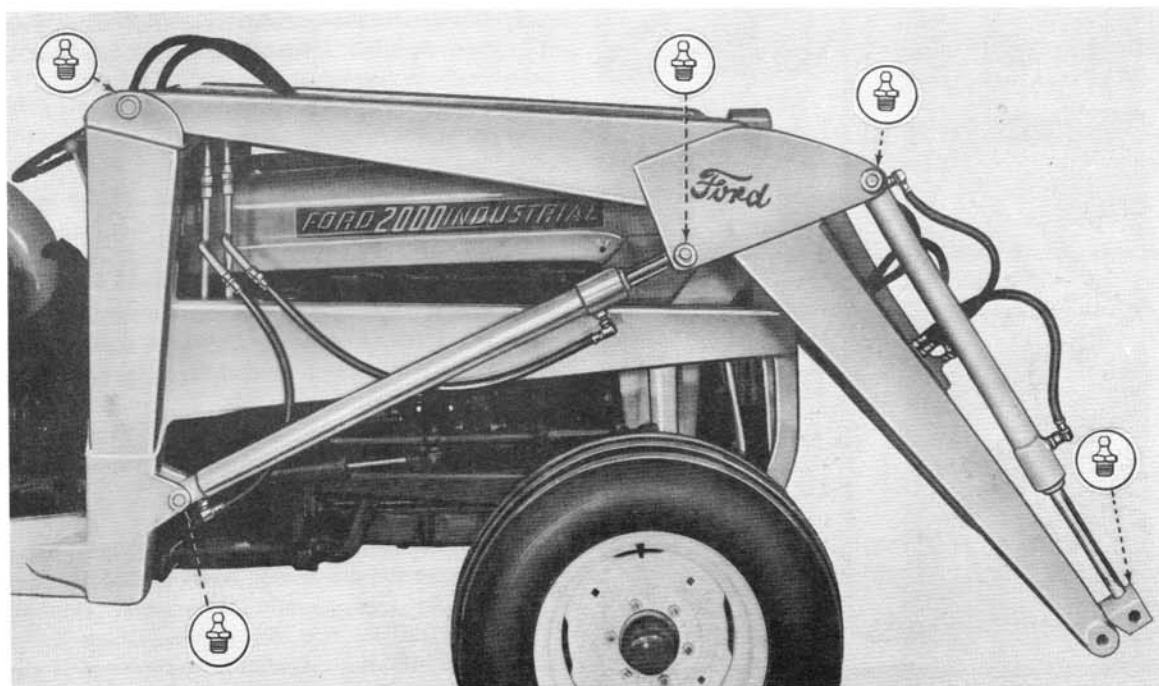

Figure 6
There are ten lubrication fittings on the Series 725 Loader. Figure 6 shows five of the fitting locations on the right side of the loader. The other five are on the left side in the same location. Lubricate the loader through these fittings after every eight hours of operation. Use a sufficient quantity of grease to force out the old dirt-encrusted grease.
9. Fill the hydraulic system with Ford Specification M2C41 Hydraulic Oil. The correct oil level is 13-1/2" from the top of the filler opening as shown in Figure 6.